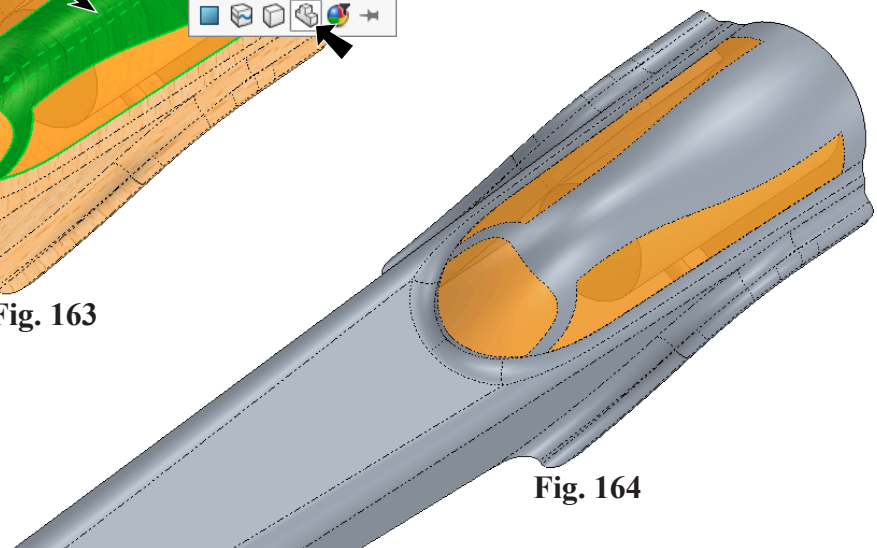

Fig. 164
Step 6. Click the **body** and click **Paste Appearance**  on the The Appearance Target palette context toolbar. Then, click **Body**  on the Appearance Target palette, **Fig. 163** and **Fig. 164**.